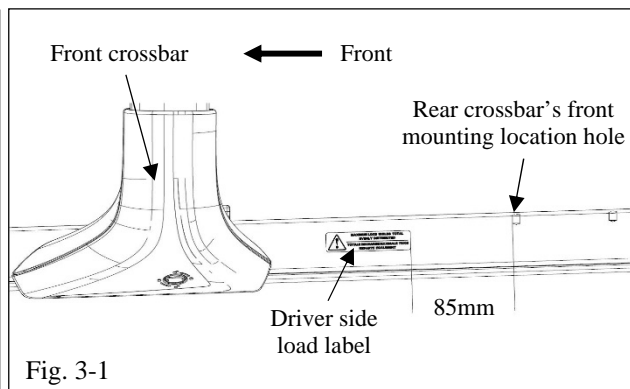

Fig. 3-1
- (d) Place the label on the driver side roof rail, 85mm from the rear crossbar's front mounting location hole (Fig. 3-1).